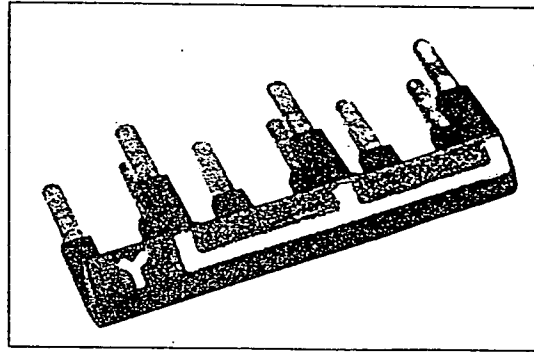

Fig. 6
2. In accordance with the desired motor operating mode (Y or Δ) install variable terminal link (Figs. 6 and 7).